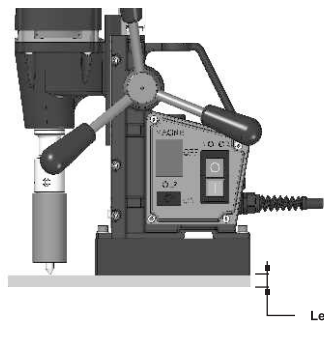

Fig. No. 14
- f) If workpiece under drilling is thin. use an iron plate larger than base as shown in fig. No. 14, 15.